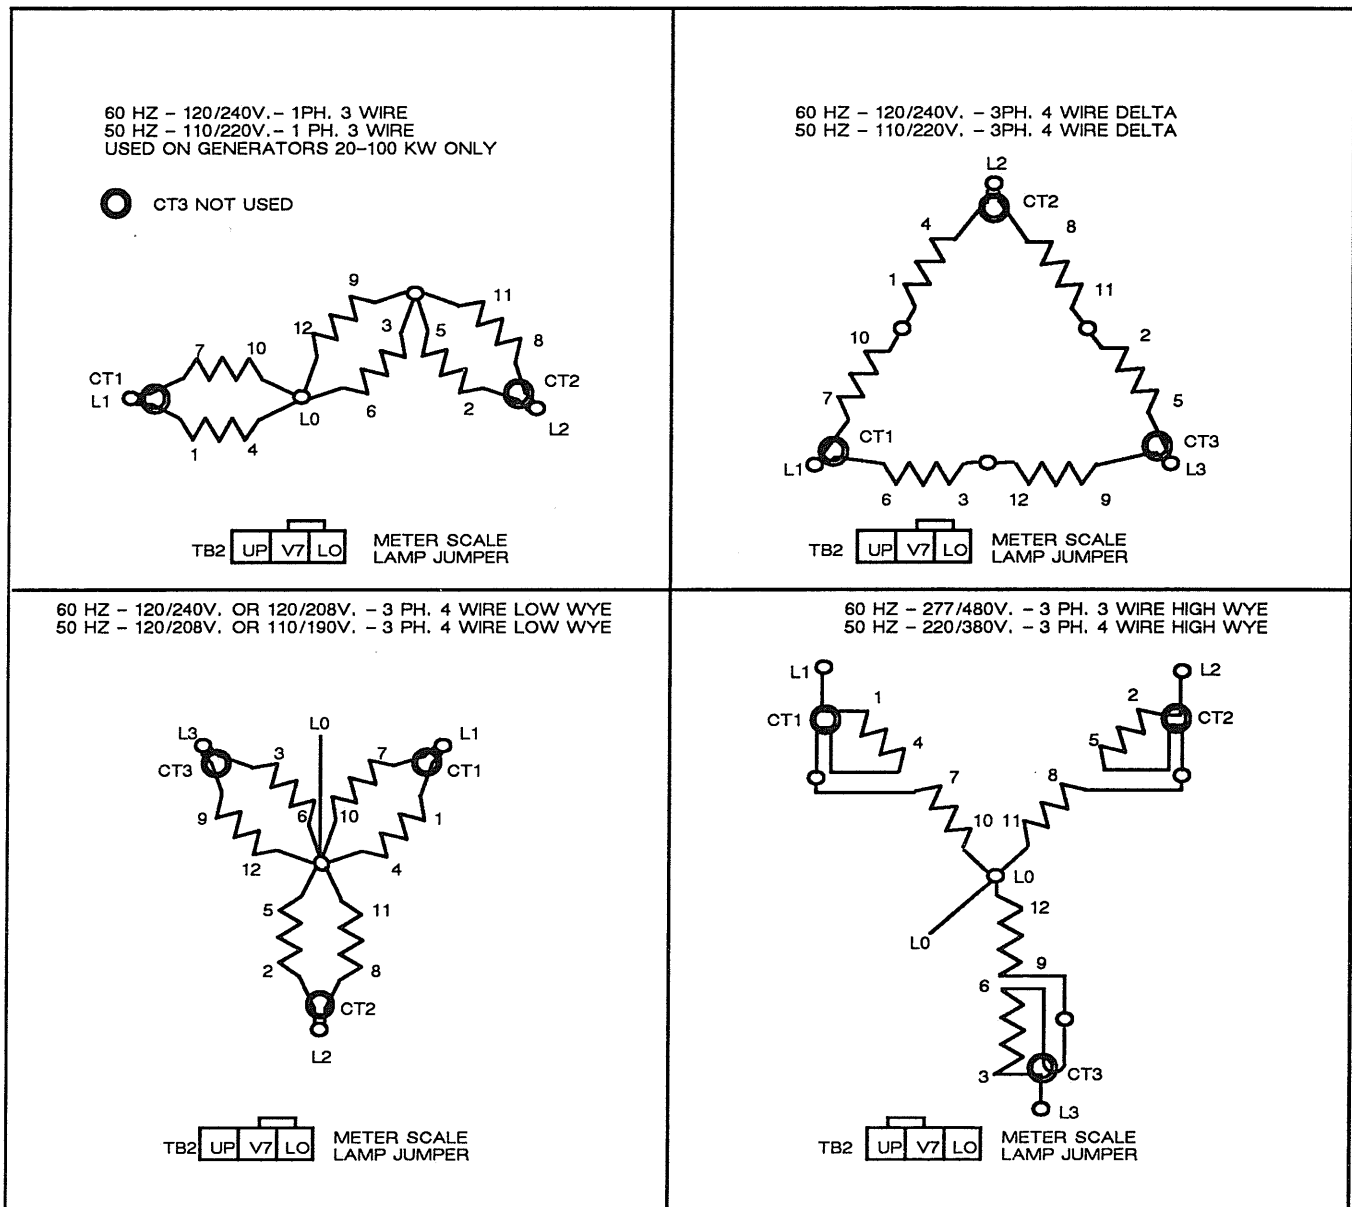
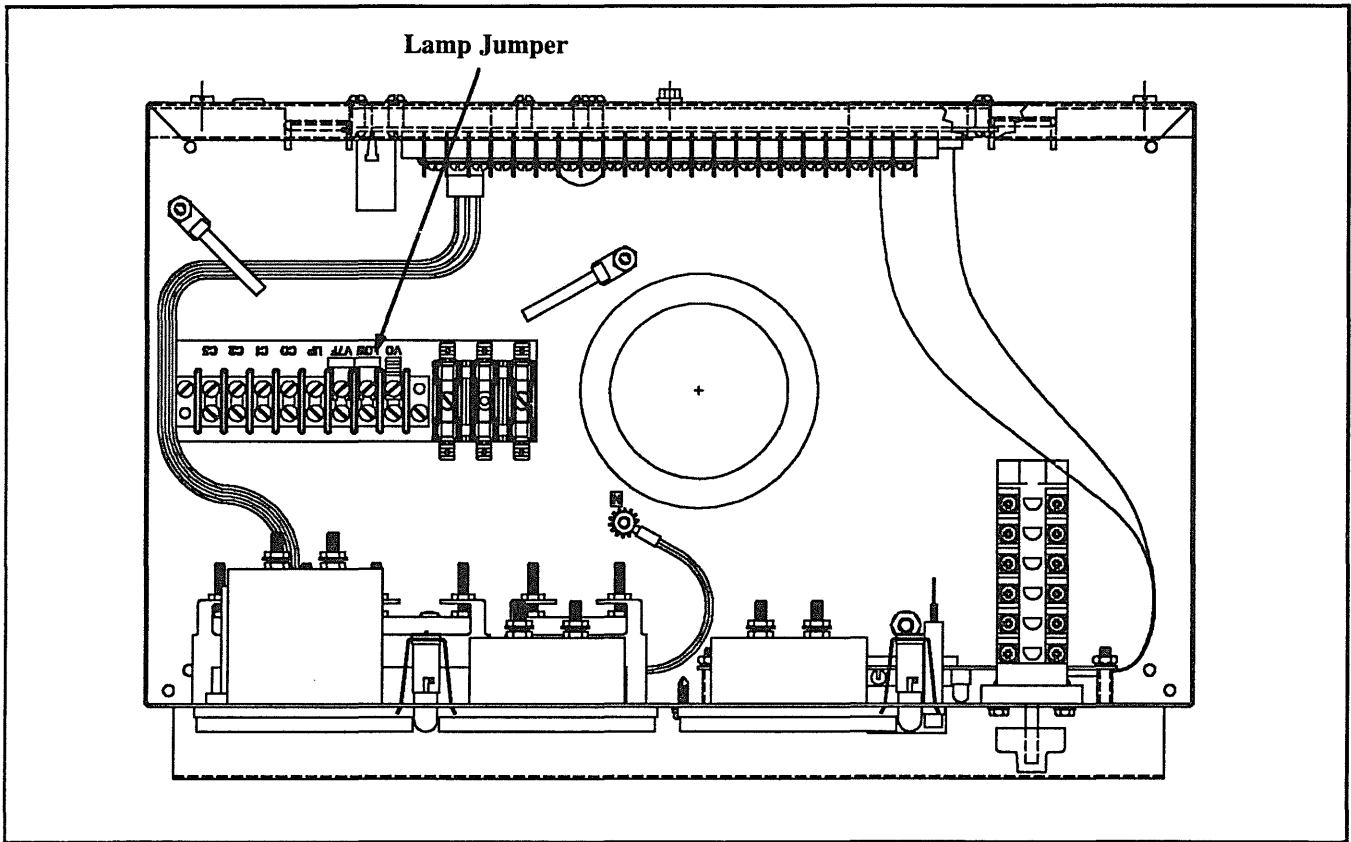

Figure 6-1. Generator Reconnection
Figure 6-2. Meter Scale Lamp Jumper - Typical
3. Select desired voltage connection from Figure 6-1. Route leads through current transformers and connect according to the diagram for desired phase and voltage.
4. If controller is equipped with meters, remove controller cover and reposition meter scale lamp jumper (see Figure 6-2), if necessary, to match meter scale lamps with desired voltage (as shown in Figure 6-1).